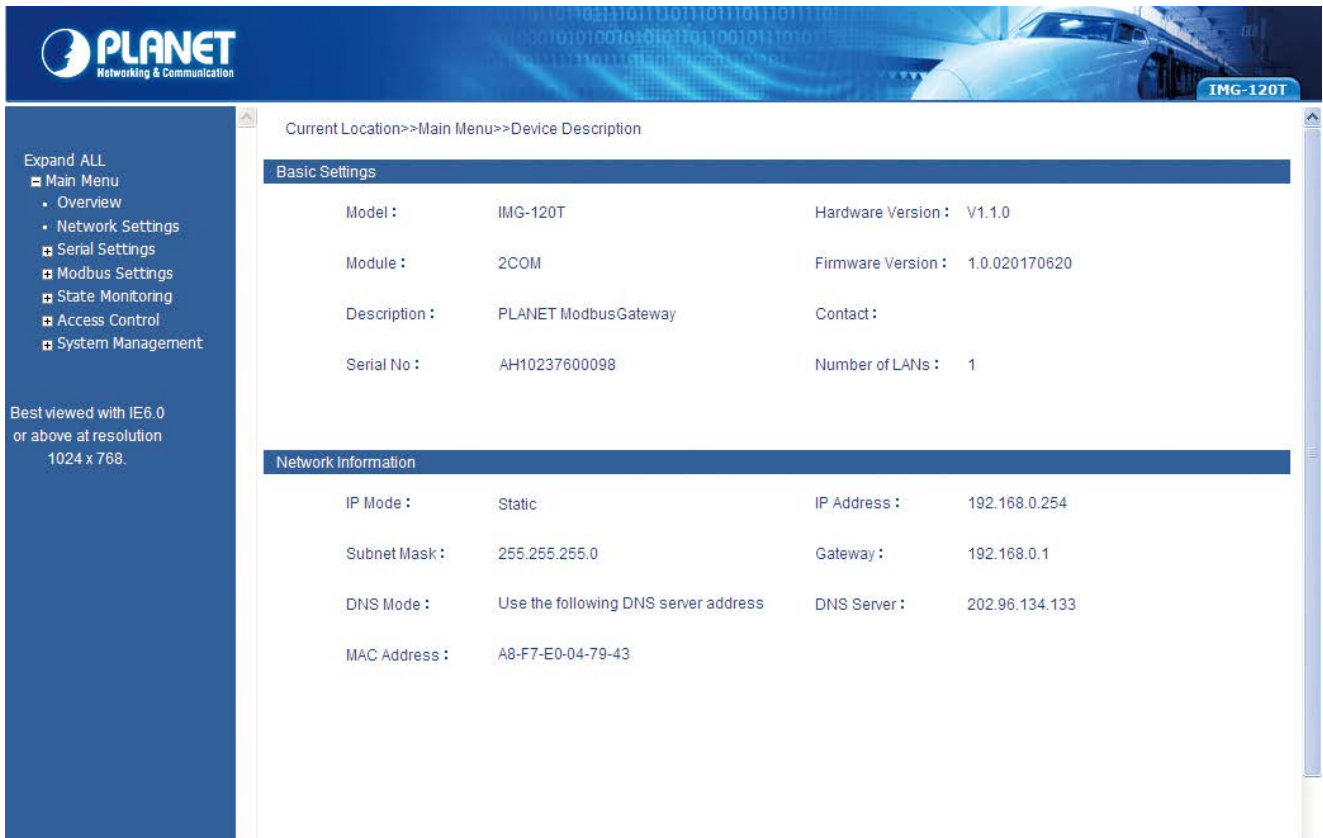

Figure 3-5: Web Main Screen of Industrial Modbus Gateway
After entering the username and password, the main screen appears as Figure 3-5 shows.
4. Press the **“Connect to Device”** button and input the username and password in the web login screen, and the web main screen appears in Figure 3-5.